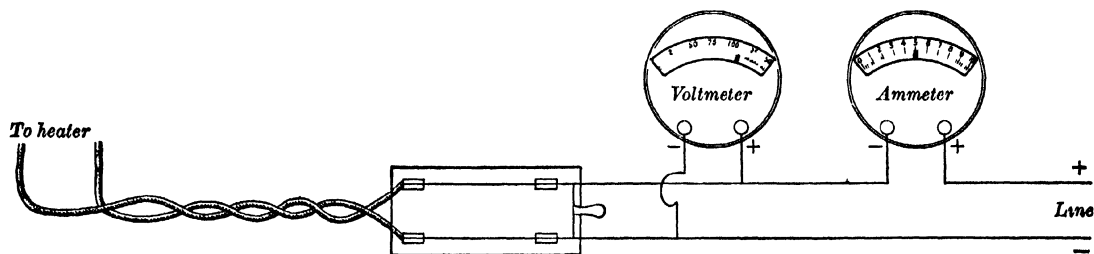

FIG 71
**Heating water with the electric current.** Pour 1 lb of cold water into the teakettle used in Exp 18 and place it on the electric disk heater of Fig 68. Connect an ammeter in series with the heater and line and a voltmeter across the line, as in Fig 71